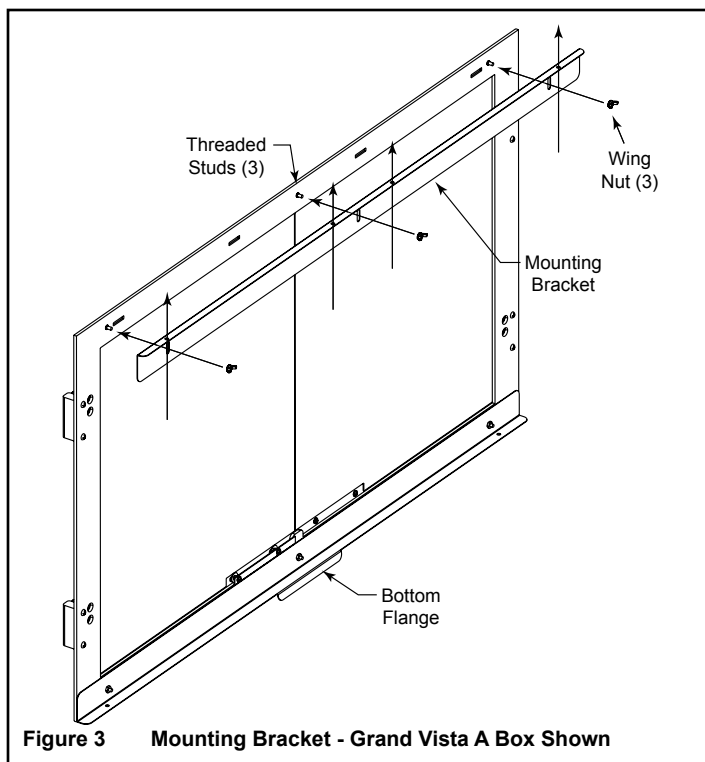

Figure 3 Mounting Bracket - Grand Vista A Box Shown
- C. Remove three wing nuts and mounting bracket from frame assembly (refer to Figure 3).
- F. Pick up the frame assembly and hook the bottom flange (refer to Figure 3) over the bottom face of the fireplace.
- G. Push the top of the frame assembly against the mounting bracket. The threaded studs of the frame assembly will fit through the matching holes of the mounting bracket. Secure with wing nuts. Refer to Figure 3. Fasten bottom flange to the fireplace with two screws.